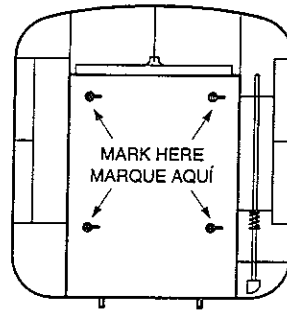

Figure 3
2. With the door of the dispenser open, mark the stall wall at the four (4) mounting slots as shown in Figure 3.
3. Drill four (4) 5/16" diameter holes at the marked locations. The depth should be 1-1/2 times the length of the **ALLIGATOR® ANCHOR**.
6. Mount the dispenser onto the four (4) screws and insure it fits properly. Adjust as required.